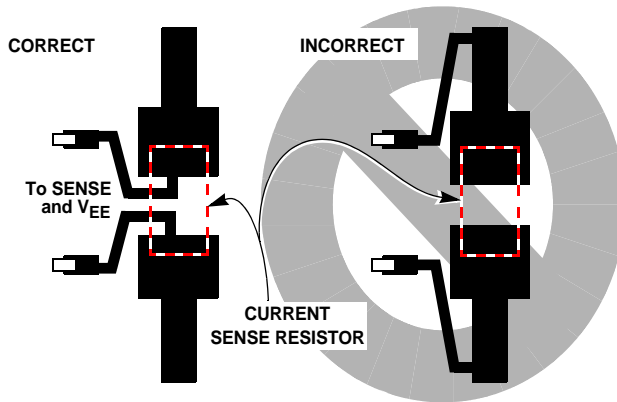

FIGURE 5. SENSE RESISTOR
**Physical layout of R1 SENSE resistor** is critical to avoid the possibility of false overcurrent occurrences. Since it is in the main input-to-output path, the traces should be wide enough to support both the normal current, and up to the over-current trip point. Ideally trace routing between the R1 resistor and the ISL6140/ISL6150 (pin 4 (VEE) and pin 5 (SENSE)) is direct and as short as possible with zero current in the sense lines. (See Figure 5).